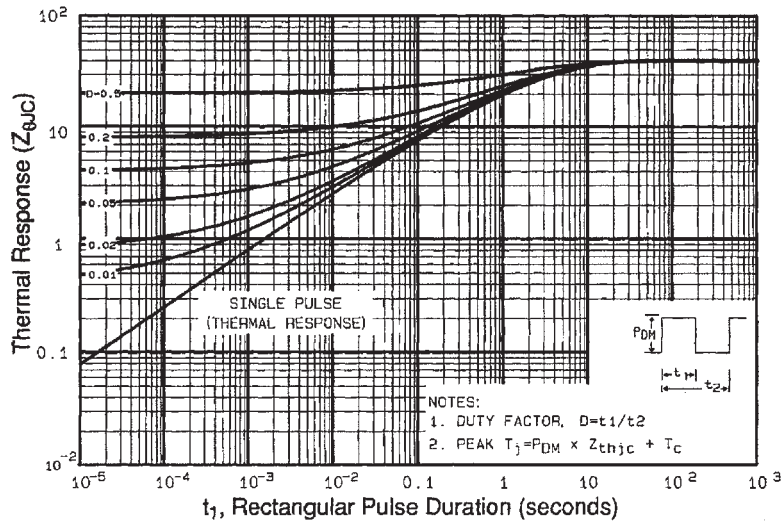

Fig 11. Maximum Effective Transient Thermal Impedance, Junction-to-Case
① Repetitive rating; pulse width limited by max. junction temperature. (See fig. 11)
② $V_{DD}=25V$, starting $T_J = 25^\circ\text{C}$, $L = 25\text{mH}$